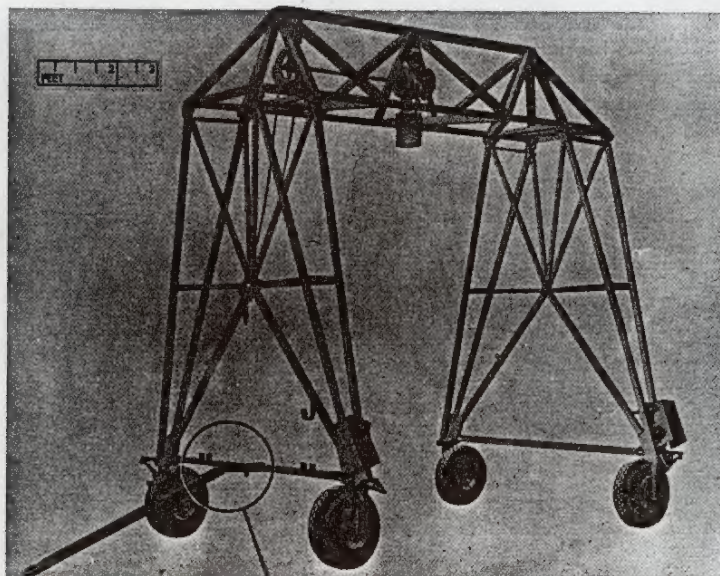

Figure 3-7. Portable hoisting unit.
- a. Lifting devices. A portable hoisting unit (fig 3-7) is used for lifting the missile body sections, assembled missile body, or rocket-motor cluster. The portable hoisting unit is a hand-operated, chain-driven, A-frame hoist that has a capacity of 6,700 pounds. A wrecker crane may also be used for lifting missile components.